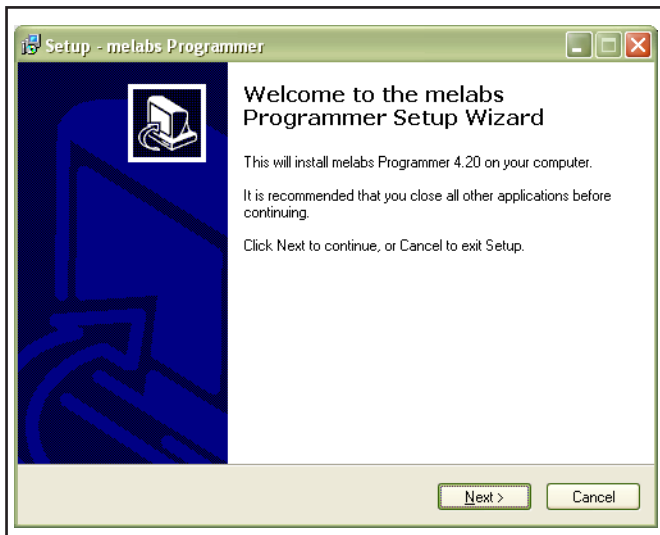

Figure 1.
3. Click the next button on the screen and follow the instructions that will step you through the rest of the installation process. See figure 1.